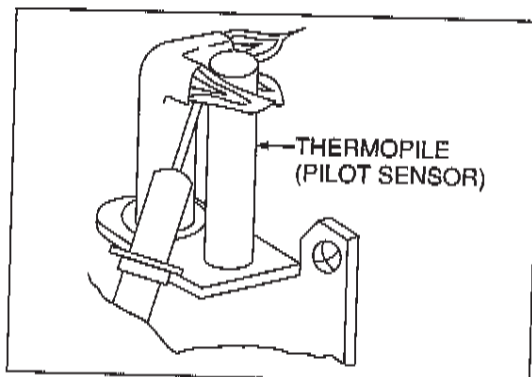

Figure 12B
- b. Adjust the pilot key to provide properly sized flame. (See Figure 12B for proper flame appearance.)